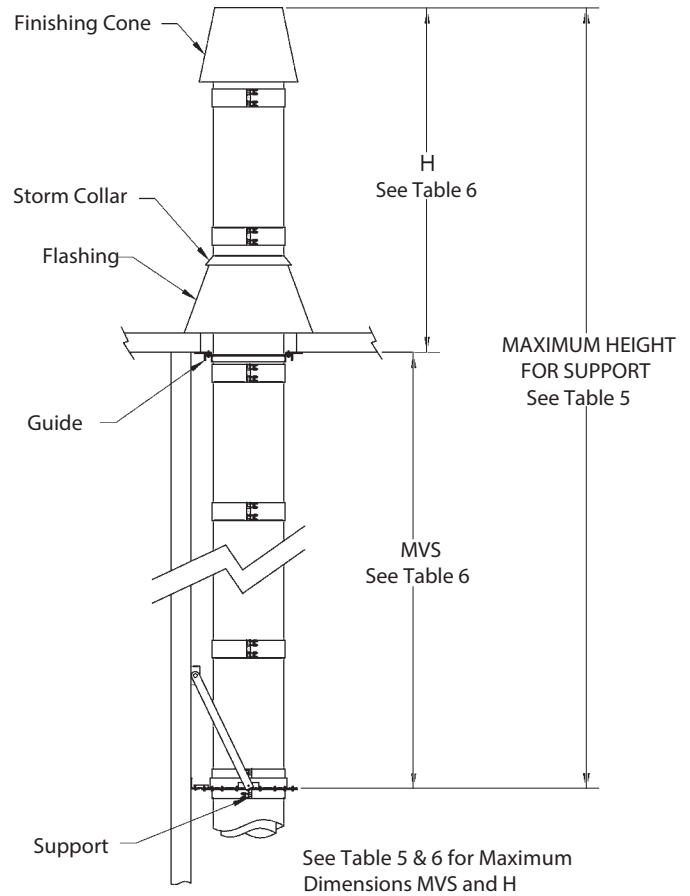

Figure 4 - Maximum freestanding height
2. If the chimney above the roof does not exceed dimension H, no special guying or bracing is required. However, to protect the flashing from lateral movement, a guide must be installed at the roof level. See Figure 4.